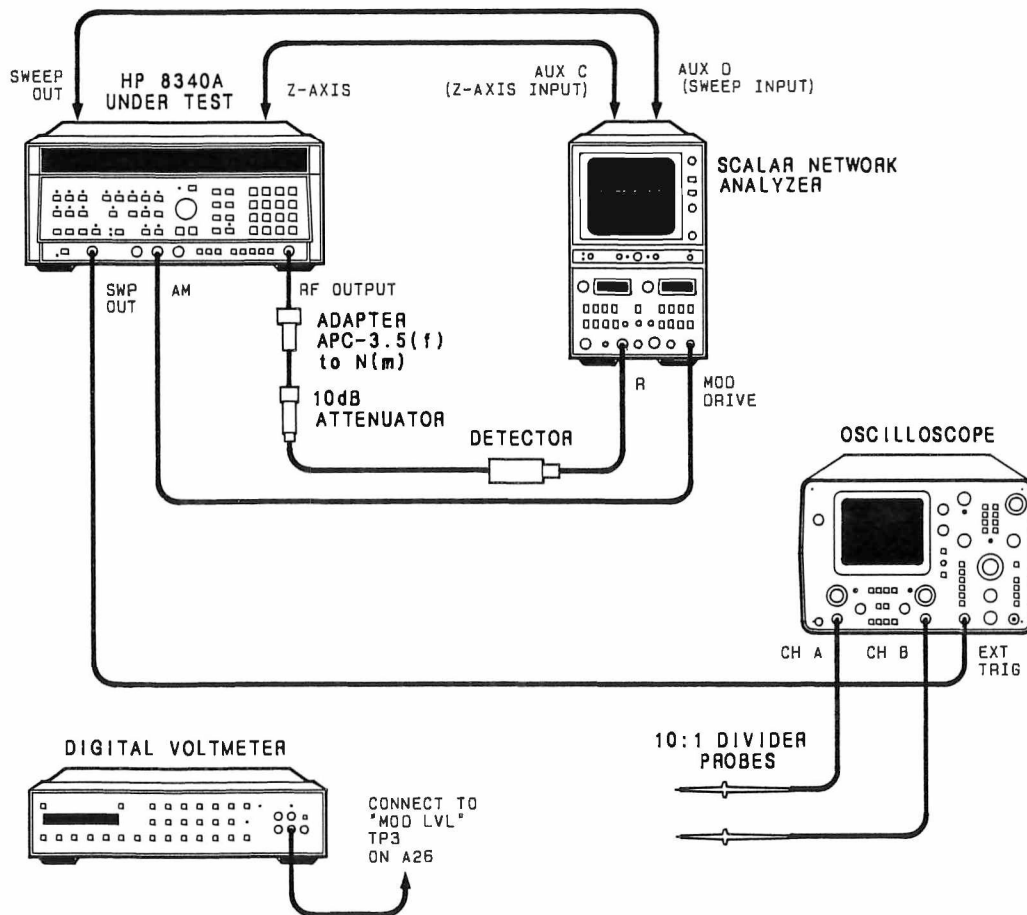
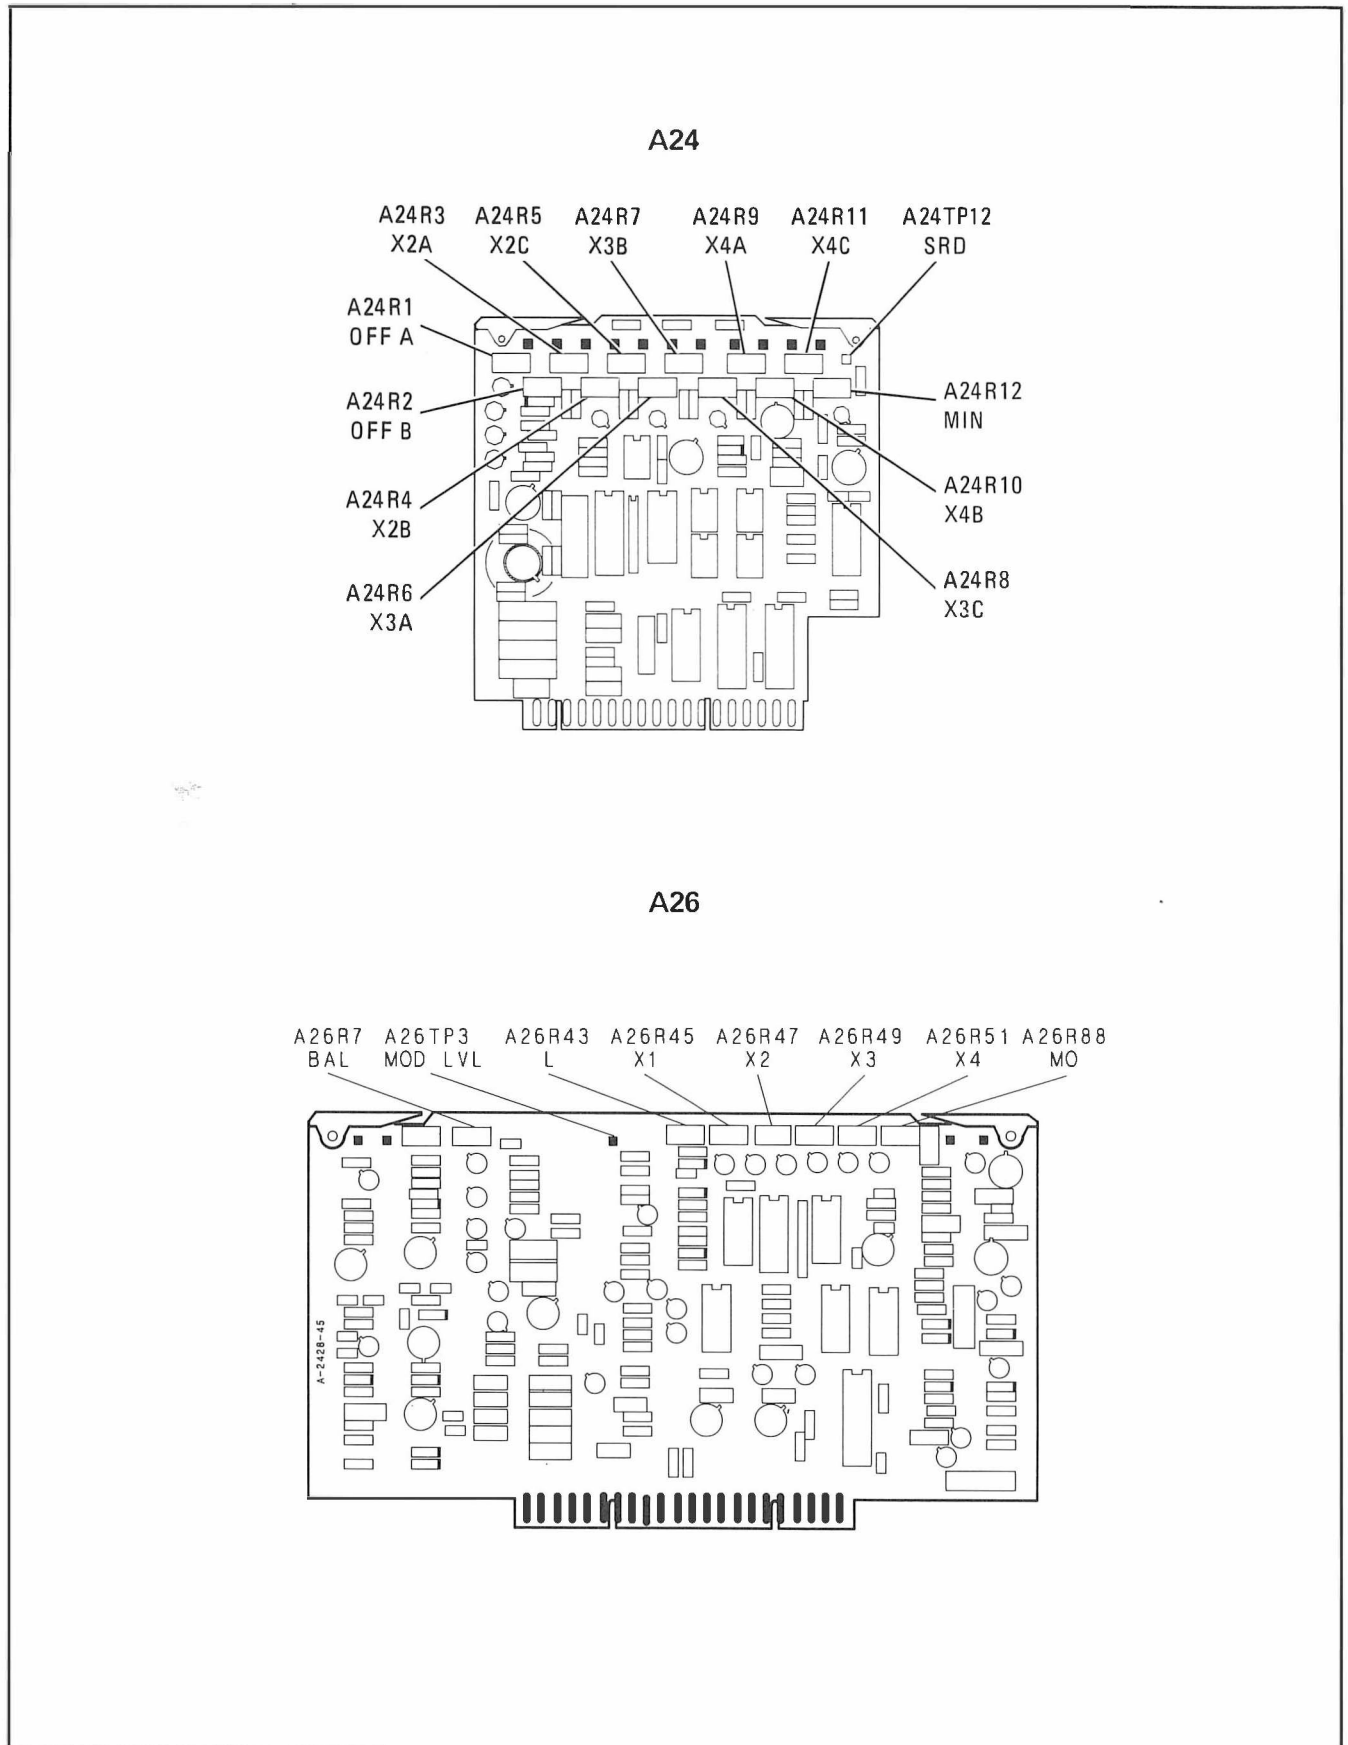

Figure 5-49. Leveled Power SRD Bias Adjustment Test Setup
Figure 5-50. SRD Bias Adjustments on A24 and A26
1. Connect equipment as shown in Figure 5-49. Connect the DVM to A26TP3 (MOD LVL). Preset A26R88 (MO) fully clockwise (Figure 5-50). Allow at least 30 minutes warm up.
3. Adjust the front panel rotary knob for a DVM indication of 0.00 volts, then note the POWER dBm display indication. Adjust A26R88 (MO) CCW to decrease the POWER dBm indication by 0.2 dB.
Set A24R1 (OFF A) (Figure 5-50) and A24R2 (OFF B) controls fully counter clockwise.
15. Remove oscilloscope probes from the HP 8340A. Connect the HP 8340A to the 8755C as shown in Figure 5-49. Press HP 8340A [INSTR PRESET] and [RECALL] [2]. Press [SHIFT] [PWR SWP] and enter [2] [0] [dBm]. Press [SHIFT] [PULSE]. Press [SWEEP TIME] [AUTO].